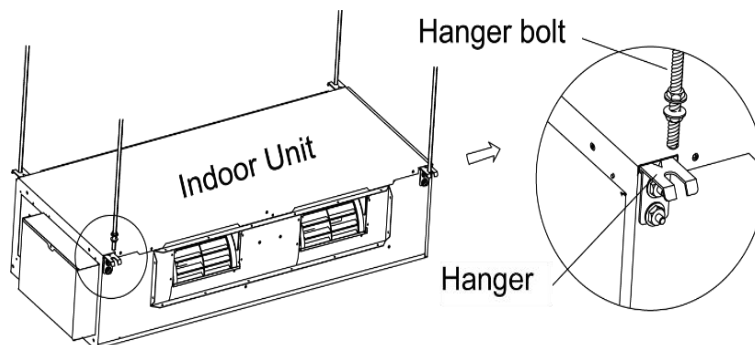

Fig7
- 6) Remove the paper pattern and mount the unit as shown in Fig7.